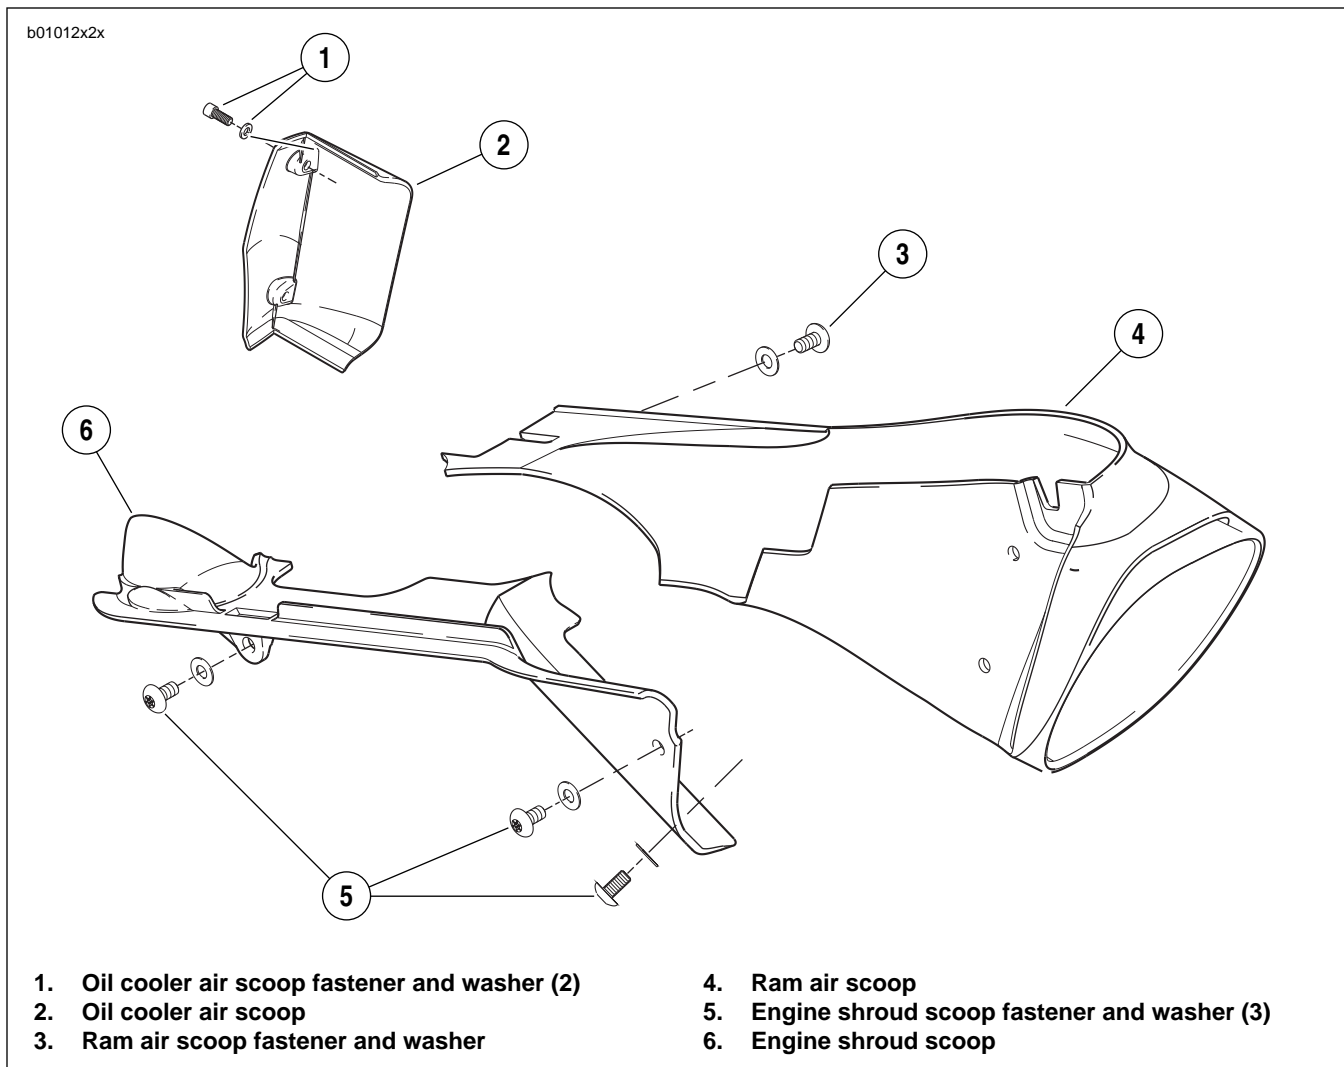

Figure 2-119. Ram Air Scoop, Engine Shroud, Oil Cooler
1. See Figure 2-119. On left side of bike, locate ram air scoop (4).
2. Remove three ram air scoop fasteners (3).
3. Remove ram air scoop (4).
1. See Figure 2-119. Position ram air scoop (4).
2. Install ram air scoop (4) with three fasteners (3). Tighten to 12-36 **in-lbs** (1-4 Nm).
1. See Figure 2-119. On right side of bike, locate engine shroud air scoop (6).
2. Remove three engine shroud air scoop fasteners (5).
3. Remove engine shroud air scoop (6).
1. See Figure 2-119. Position engine shroud air scoop (6).
2. Install engine shroud air scoop (6) with three fasteners (5). Tighten to 12-36 **in-lbs** (1-4 Nm).
1. See Figure 2-119. On left side of bike, locate oil cooler air scoop (2).
2. Remove two oil cooler air scoop fasteners (1).
3. Remove oil cooler air scoop (2).
1. See Figure 2-119. Position oil cooler air scoop (2).
2. Apply **LOCTITE 272** (red) to oil cooler air scoop fasteners (1) and tighten to 48-72 **in-lbs** (5.4-8 Nm).